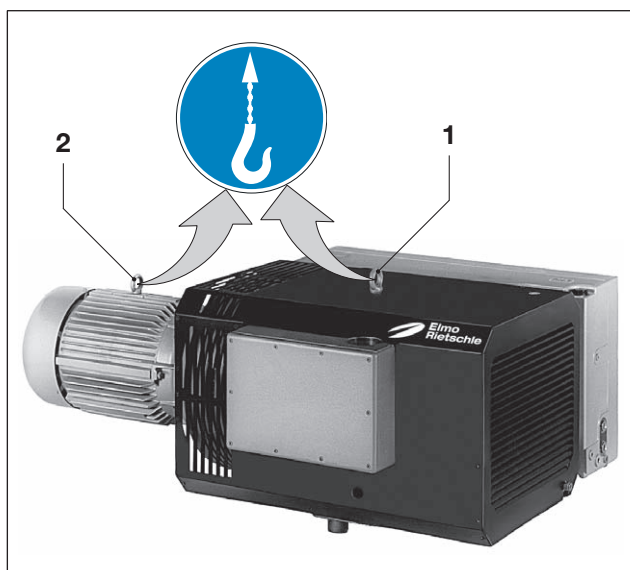

Fig. 1 Lifting and transporting
- b) To lift and transport the machine it must be suspended on the pump housing eyebolt (Fig. 1/1) and the motor housing eyebolt (Fig. 1/2). If the eyebolt is missing the motor must be lifted with a rope sling.